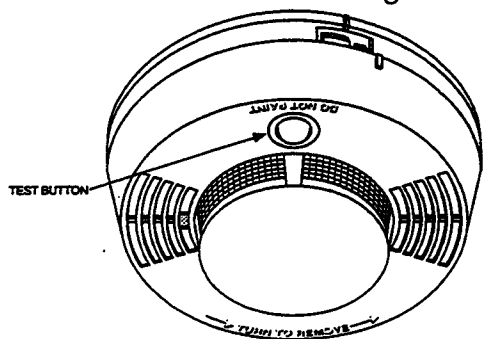

Figure 7. Test button location
2. Press and hold the test button on the smoke detector for 20 seconds, then the smoke detector's alarm horn will start and the detector's indicator light flashes rapidly. The device then transmits an alarm signal to the CPU. Refer to Figure 7 for test button location.